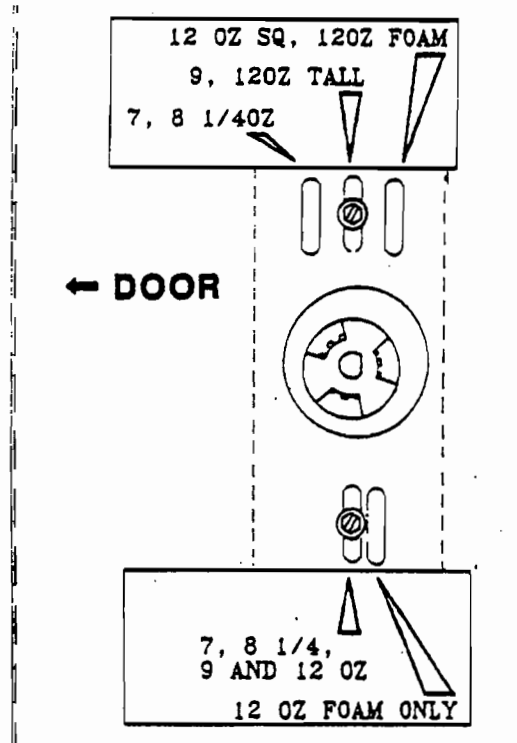

FIGURE 3.20
- A. See Figure 3.20 for spiral mounting positions for different size cups. Set all three spiral to the same mounting slots using the three spiral positioning plates on the left and three on the right side of the cup dispenser asm. Upon installing cups between the spirals, verify that the top and middle spiral has a space between its center shaft and the stack of cups of approximately 1/8 to 1/4 of an inch. If not, move spiral mounting positions in or out further as necessary.